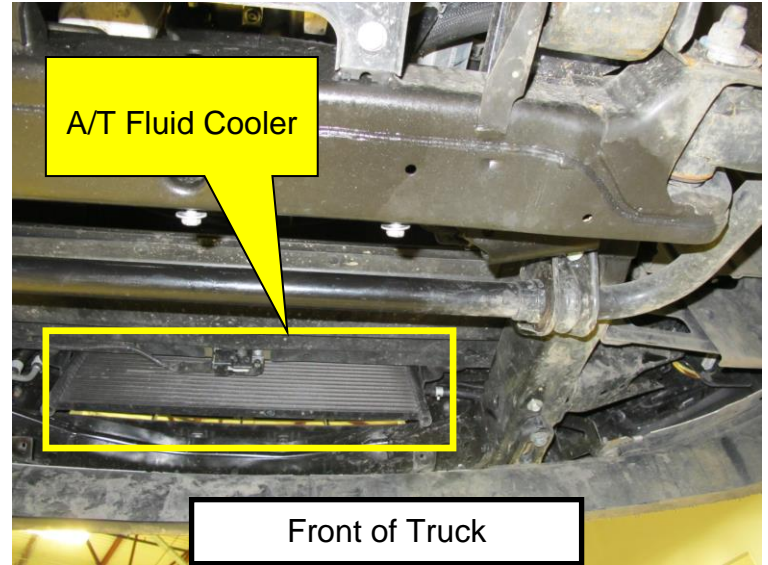

Figure 10
9. Locate the A/T fluid cooler behind the front bumper (Figure 10).